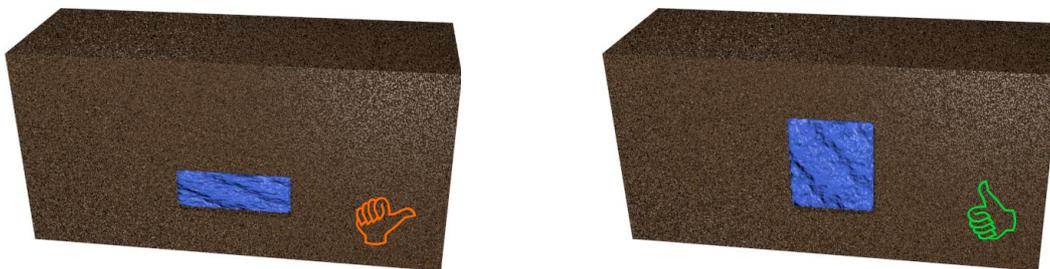

Figure 6.1: Detection of thick objects is better than flat objects
- The deeper you are scanning the larger the underground objects must be. You cannot detect very small cavities or water deposits at very high depths. It is also much more easy to detect thick objects that overlap more depth layers than flat objects as shown in figure 6.1.